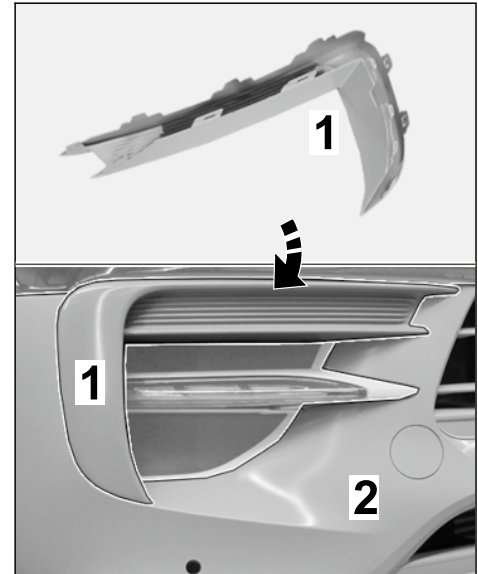

Figure 13 (Basic model/S)
- 2.7.5 Install painted trim (left/right) in the front apron on the relevant side from the outside (⇒ *Figure 13 (Basic model/S)*).